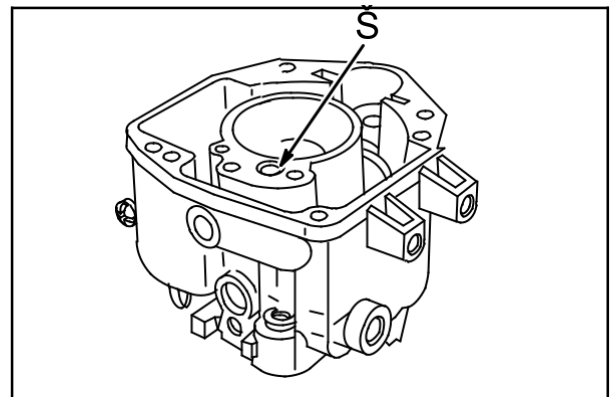

Fig. 81
Remove pilot jet (10) using Screwdriver #19061, **Fig. 81**.